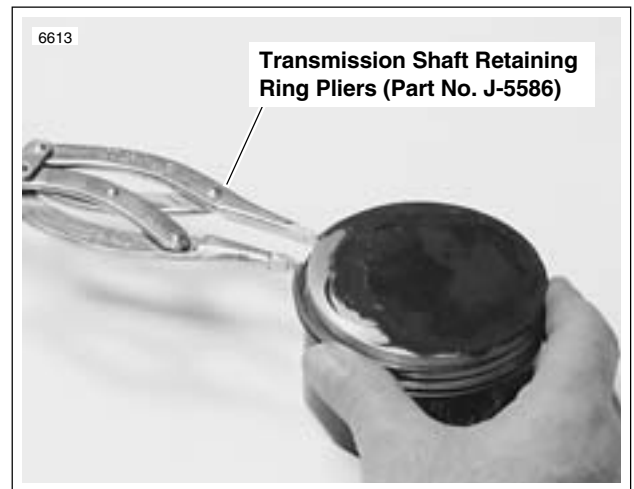

Figure 3-73. Installing Piston Rings
2. See Figure 3-73. Apply engine oil to piston grooves. Use TRANSMISSION SHAFT RETAINING RING PLIERS (Part No. J-5586) to slip compression rings over piston into their respective grooves. Be extremely careful not to over expand, twist rings or damage piston surface when installing rings.